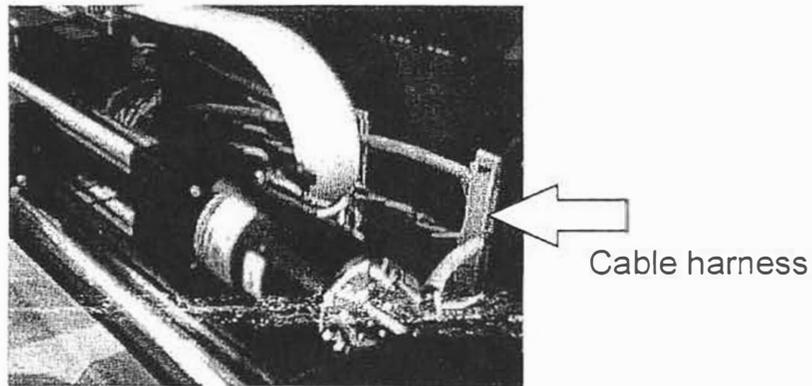

Figure 2.4.6 - Cable routing and quick-release cable harness
- .5 Remove all electrical cables for the scan motor, limit and encoder signals. All of these cables are clearly labeled. Note routing of the cables per figure 2.4.6. The straps holding the cables to the rear metal shield can be released by pulling them down. Note the routing of the cables before removing them. The cables for the replacement scan
- .3 Re-route and reconnect the scan motor, limit, and encoder cables as they were originally found (see figure 2.4.6).